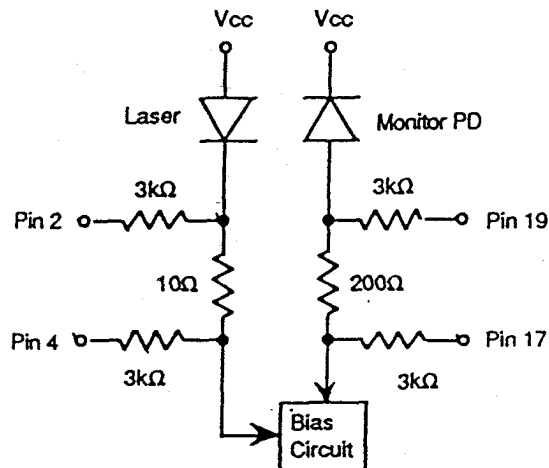

Figure 3 Monitor Circuit Schematic Diagram
7. The Laser Bias and Rear Facet Monitor currents are calculated as ratios of the corresponding voltages to their current-sensing resistors, 10 Ω and 200 Ω , respectively (See Figure 3). Upon measuring or utilizing these values, use a device whose input impedance is high enough compared with those resistors.
3. Please refer to Figure 3 for Pin 2, 4, 17 19.